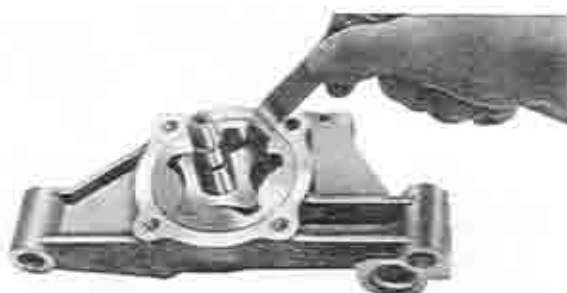

Fig. 2-4 Checking of clearance between rotors
1. Check the clearance between the lobes of the rotors with a feeler gauge as shown in Fig. 2-4.